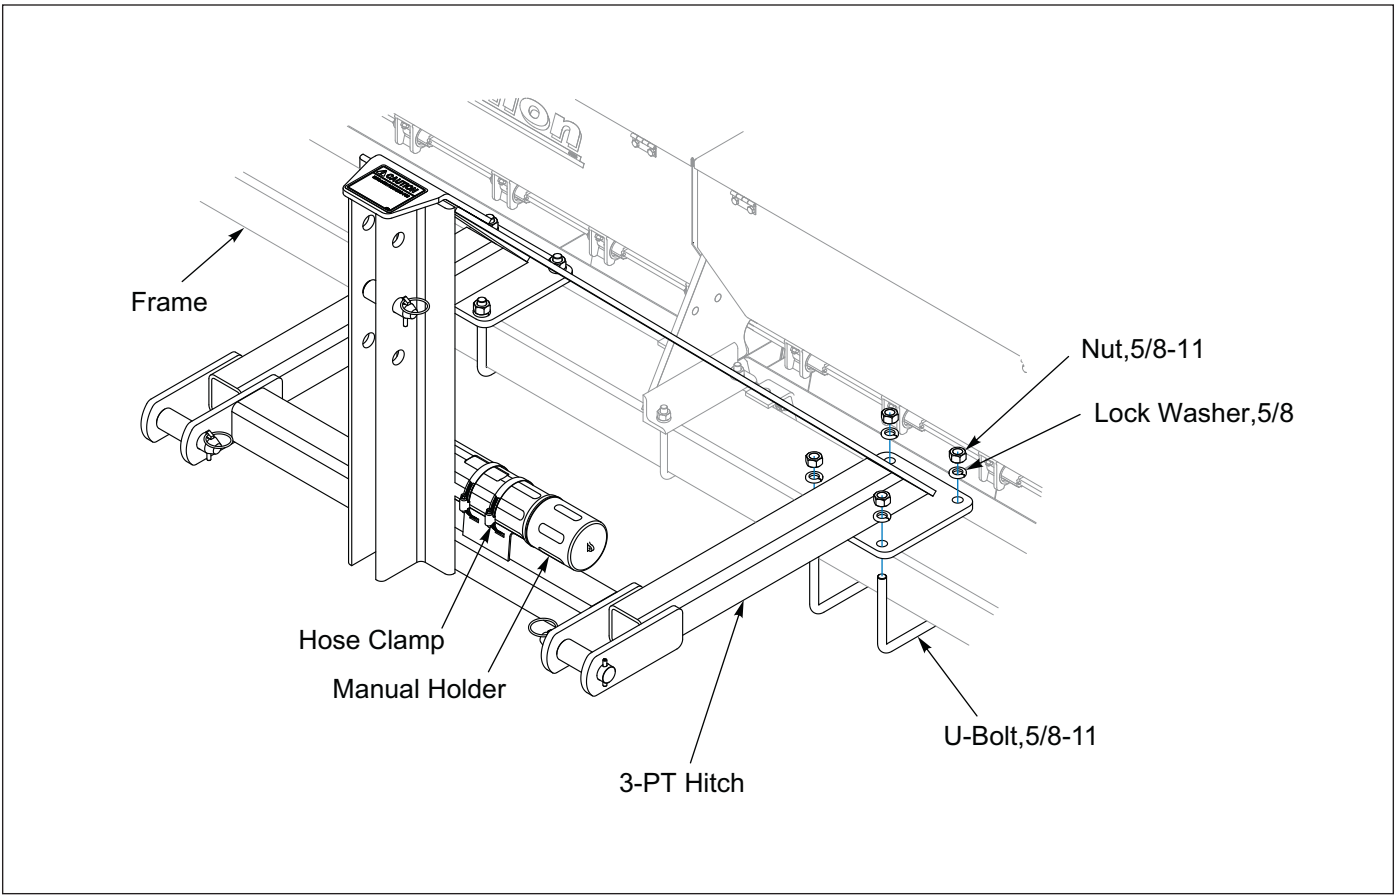

Figure 2-8: Attach 3-PT Hitch
2. Center 3-PT Hitch Assembly in relationship with the Seed Box Center Bracket. Attach 3-PT Hitch to Seeder Frame Tube with 5/8-11 U-Bolts, Lock Washers and Nuts. **See Figure 2-8.**
2. Center 3-PT Hitch Assembly in relationship with the Seed Box Center Bracket. Attach 3-PT Hitch to Seeder Frame Tube with 5/8-11 U-Bolts, Lock Washers, and Nuts. **See Figure 2-8.**